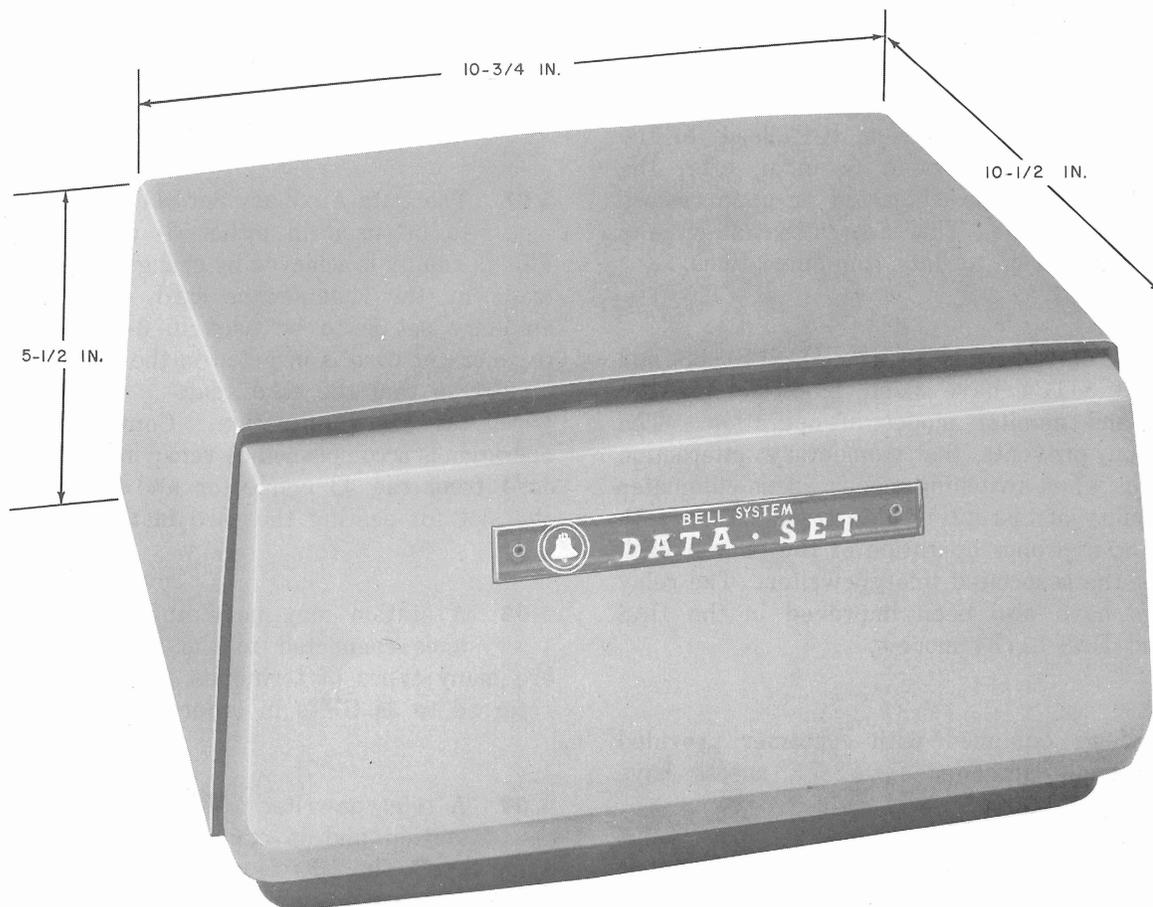

Fig. 1—Data Auxiliary Set 811B1 or 811B3—Front View
**1.01** This section provides information on the operation and function of the Data Auxiliary Set 811B-type (Fig. 1). It also includes a physical and functional description of the data auxiliary sets and general background information. The Data Auxiliary Set 811B-type will be referred to in this
**2.01** Fig. 1 shows the Data Auxiliary Set 811B-type and gives the physical dimensions of the unit. Fig. 2 and Fig. 3 show the DAS 811B1 and DAS 811B3, respectively. The cover is removed to show some of the physical differences of these data auxiliary sets.
**2.02** The DAS 811B1 and DAS 811B3 are housed in two-tone grey plastic cases. Refer to Fig. 1. When a case is provided with the data auxiliary set, there is no obvious physical difference in the appearance of the DAS 811B1 and DAS 811B3.